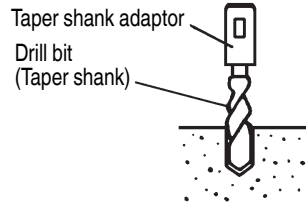

Fig. 10
- (1) Install drill bit with taper shank in the taper shank adaptor. (Fig. 10)